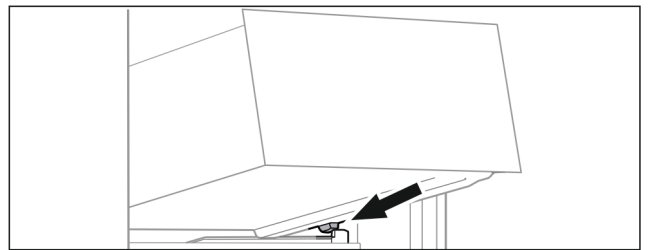

Fig. 69
- Place drawer at an angle behind the stoppers on the moulded rib. (see Fig. 69)